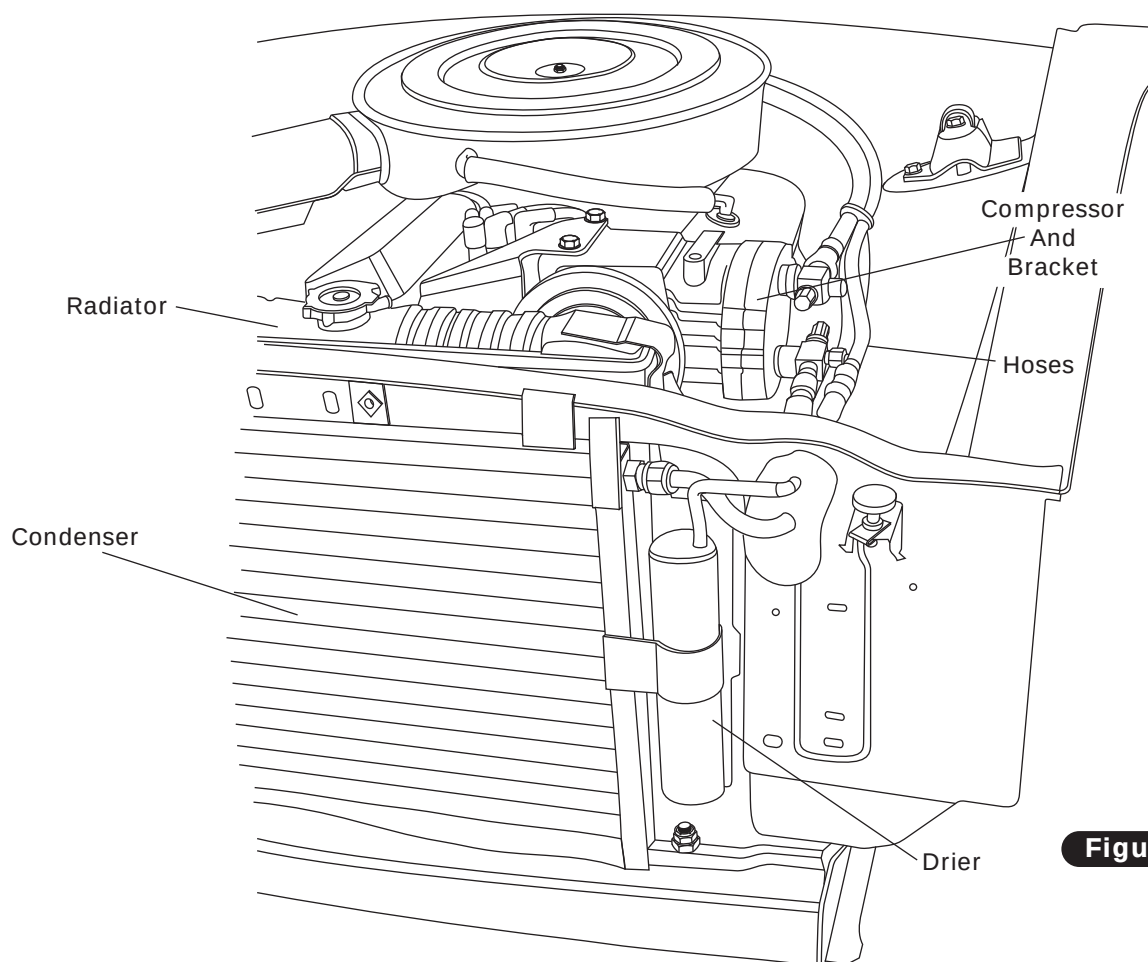

Figure 1
4. Remove the OEM condenser and drier (discard) (See Figure 1, below).
5. Remove the OEM compressor and bracket (discard) (See Figure 1, below).
6. Remove the OEM heater hoses and A/C hoses (discard) (See Figure 1, below).
1. Remove the dash pad, instrument panel, passenger-side panel and lower passenger-side dashboard (retain screws) (See Figure 1, below).
2. Remove the glove box (retain) (See Figure 1, below).
4. Remove the control panel assembly (retain the control panel) (See Figure 1, below).